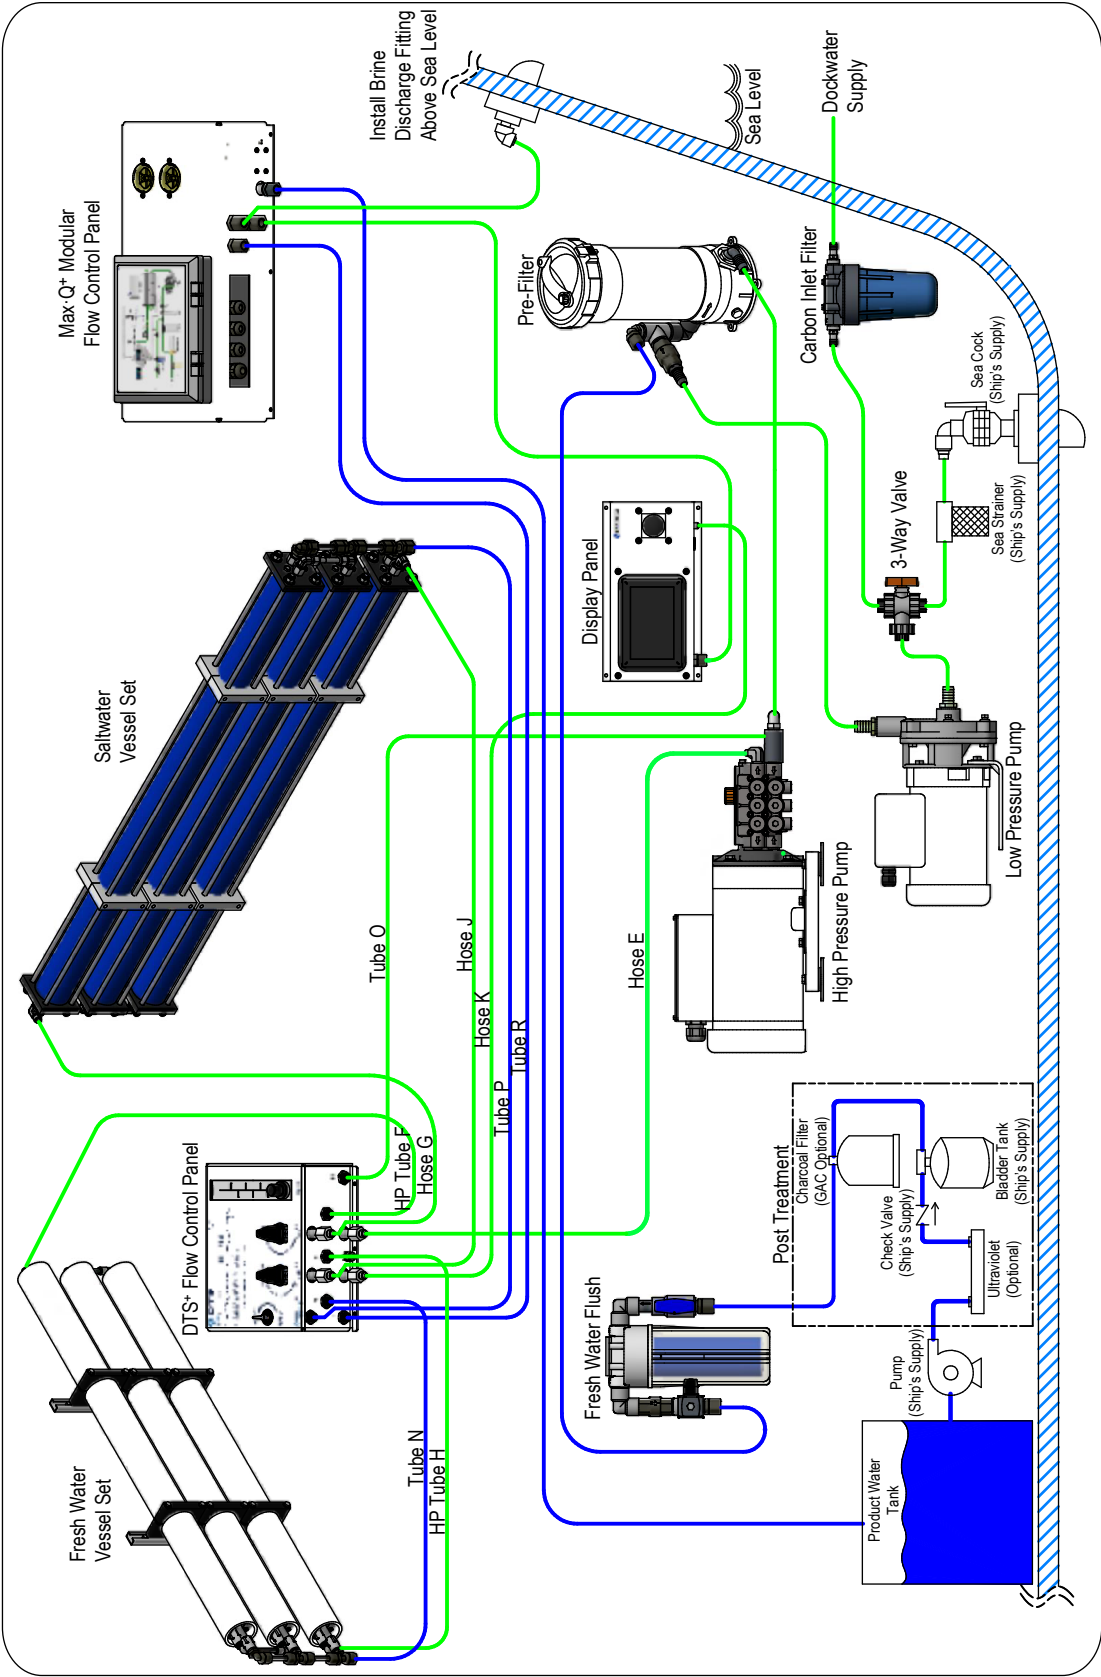

Figure 27: Max•Q+ Modular 1,850 GPD with DTS+
- "Figure 27: Max•Q+ Modular 1,850 GPD with DTS+" on page 49